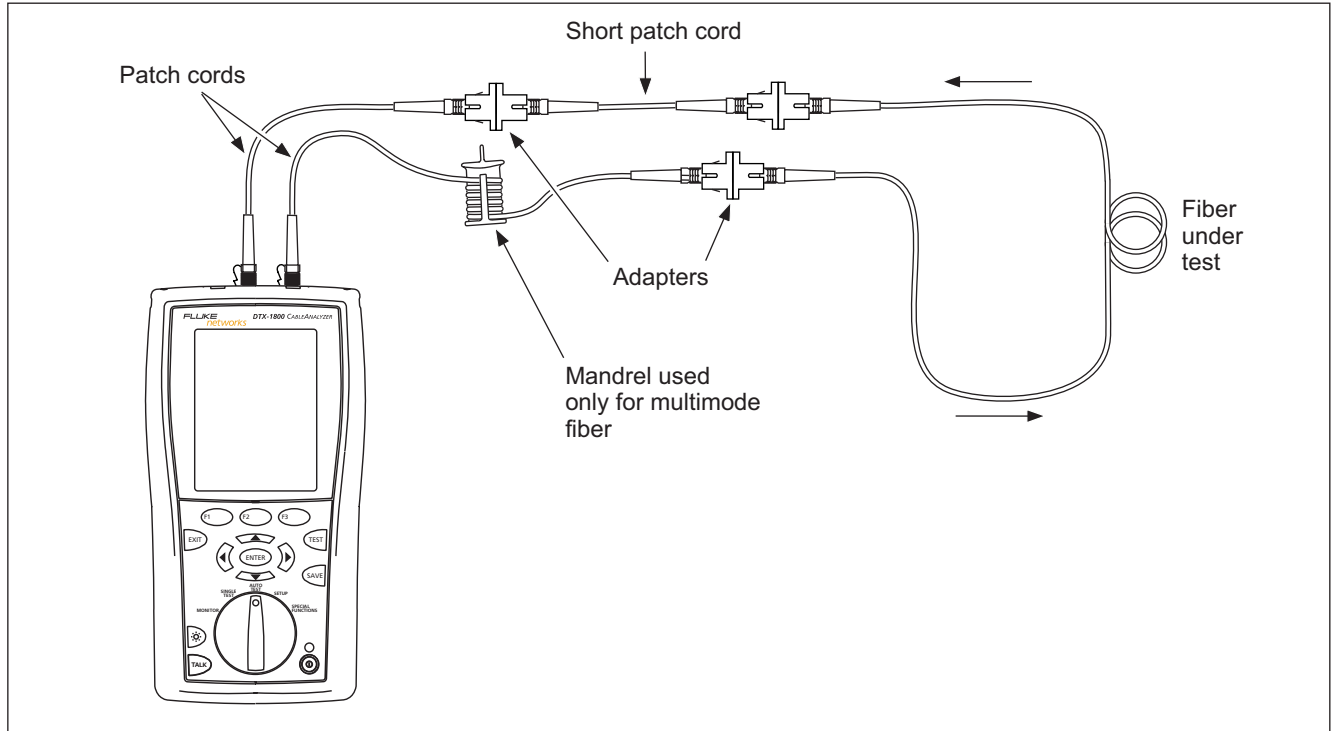

Figure 5-12. Loopback Mode Test Connections (Modified Method B)
- 4 Connect the tester to the cabling. Figure 5-12 shows connections for Method B.